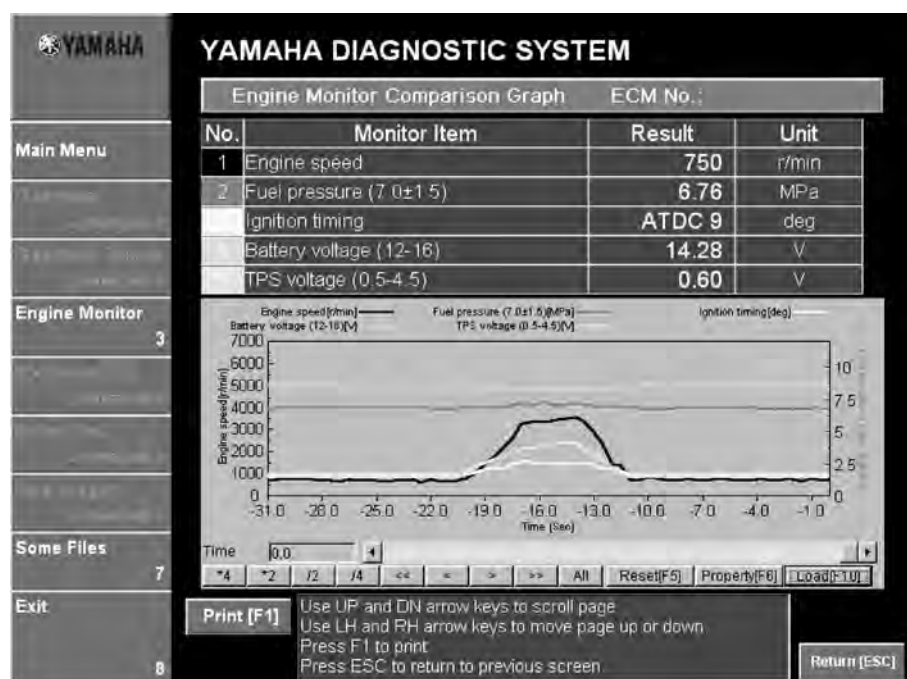

Fig. 63
6. The program displays the selected graph data. (Fig. 63)